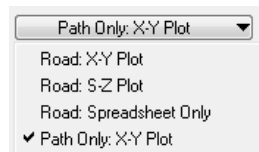
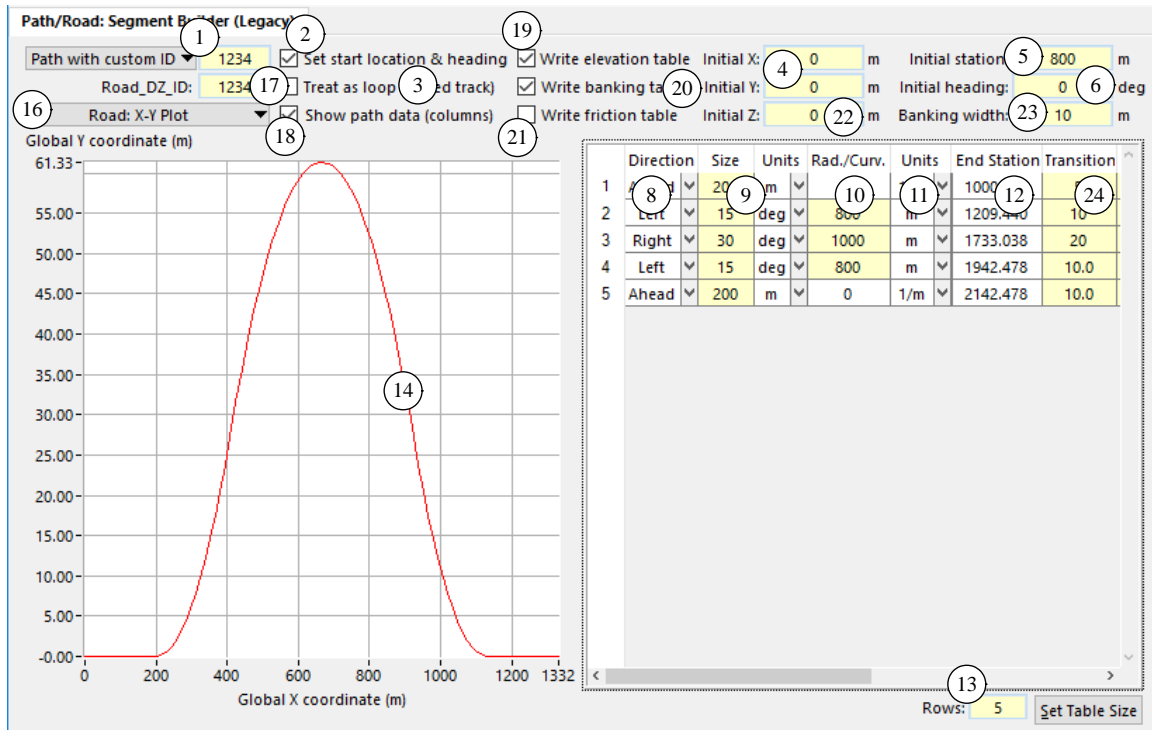

Figure 34. Options for showing plots and limiting the scope of the dataset.
Figure 35. The Segment Builder screen when used to generate road elevation or friction data.
This legacy screen was used to create a Reference Path in segments using arcs and straight lines. Horizontal (X-Y) data is always created; simple elevation, banking, and frictional coefficient data can be added (Figure 35) based on the drop-down list selection in the upper left corner of the screen (Figure 34).
The drop-down list ⑯ has four options: three for a road, and one for a path only (Figure 34).